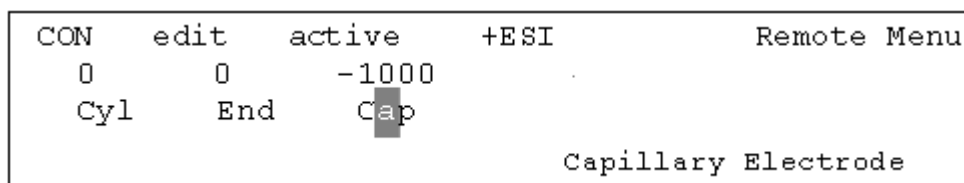

Figure 6-7 Select Cap for the Source Lens Current Reading
11. Use the arrow buttons below the Source Control Panel LCD display to position the display cursor on Cap (Figure 6-7).